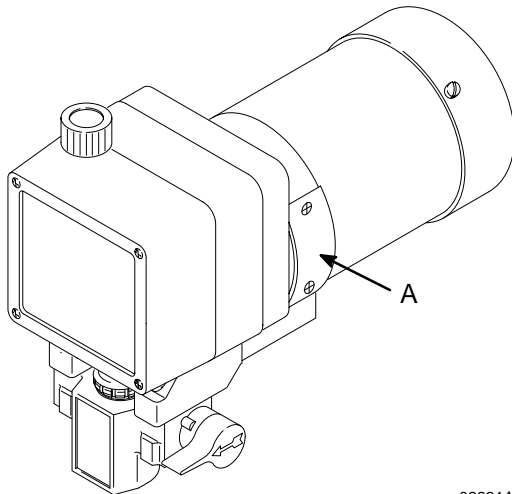

Fig. 13 02831A
1. Remove both inspection covers (A) and their gaskets. See Fig 13.